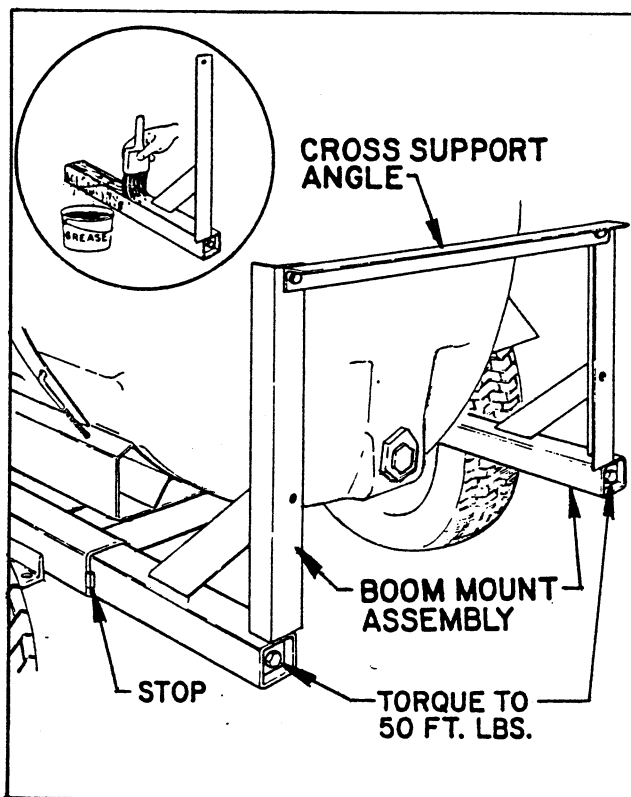

FIG. 4
■ Install the two Boom Mount Assemblies into the Vehicle Frame as shown in FIG. 4. Use a torque wrench to tighten the long (1/4" x 8") screws which join the Wedges to the tubes. Tighten to 50 ft. lbs.
■ Position the Cross Support Angle as shown in FIG. 4 and attach it to the Boom Mount Assemblies with two 1/2" x 1-1/4" hex hd cap screws, and lock nuts.